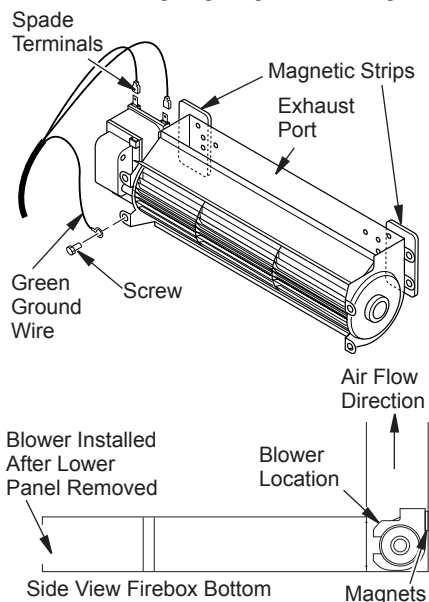

Figure 5 - Blower Model BK
1. Attach the power cord to the blower motor by firmly pushing the two female terminals at the end of the power cord onto the two spade terminals on the blower motor (see Figure 5).
2. Attach green ground wire from power cord to blower housing using screw provided (see Figure 5). Tighten screws securely with a phillips screwdriver.
3. Place the blower against the lower rear wall of the firebox outer wrapper with the exhaust port directed upward. Depending on your model, you may have to carefully route the blower assembly past the controls and brackets, and position the blower inside the back opening. The blower will be held in position against the back wall by the magnets incorporated onto the blower housing (see Figure 5).